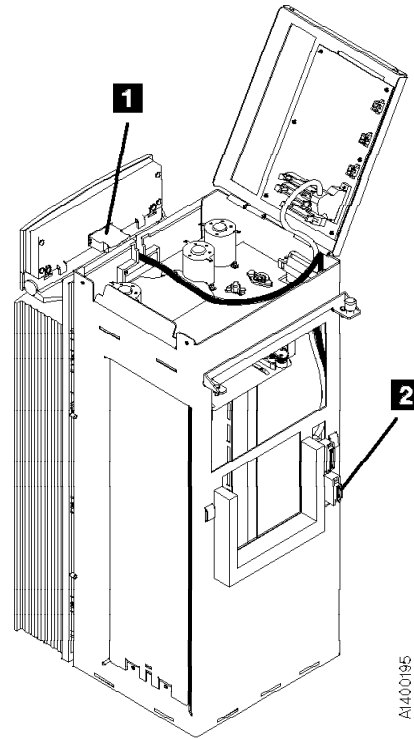

Figure 285. Operator/CE Panel Cable
5. See Figure 285. Disconnect the operator/CE panel cable connector from the panel **1**.